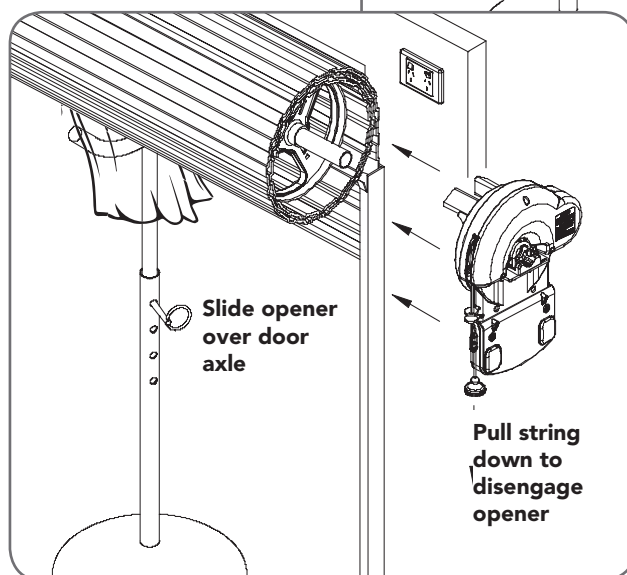

Fig. 6.5.2
- Slide the opener over the door axle and into the drum of the door as shown in **Fig 6.5.2**.